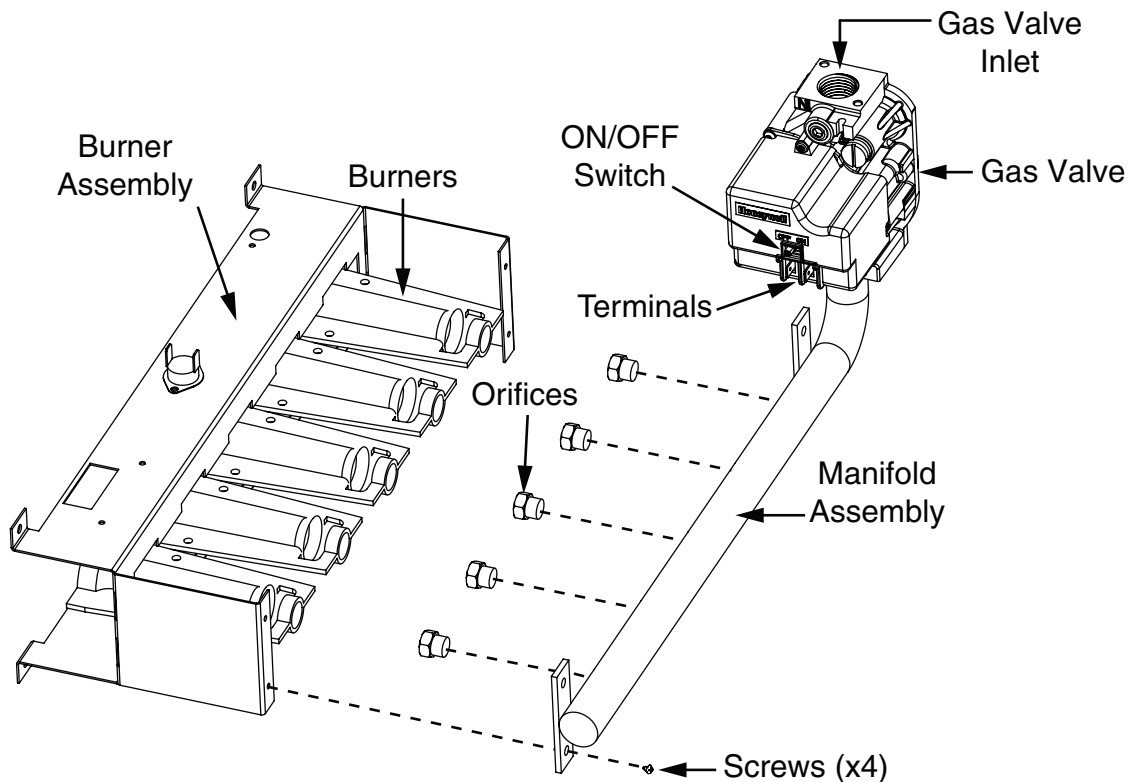

Figure 1. Typical Burner & Manifold Assembly
5. Move the gas valve ON/OFF switch to the OFF position as shown in Figure 1. For For VR8205Q2381 gas valves, turn the knob to the OFF position.